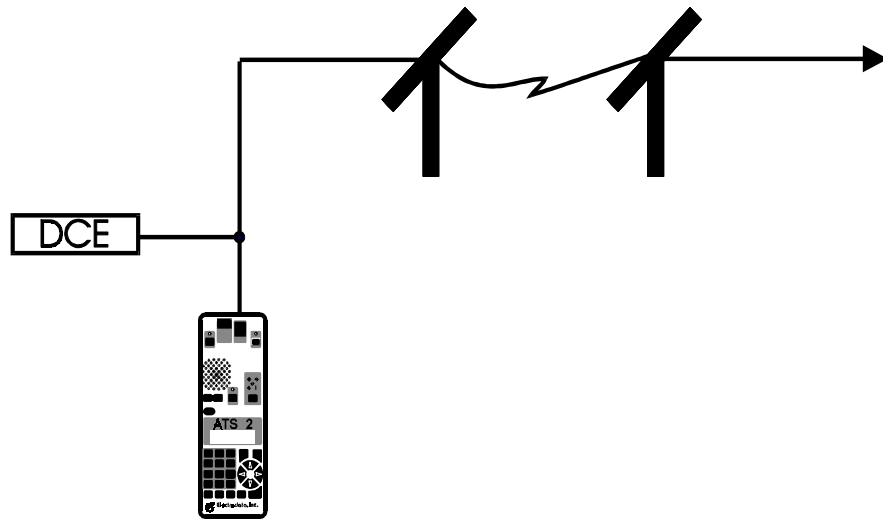
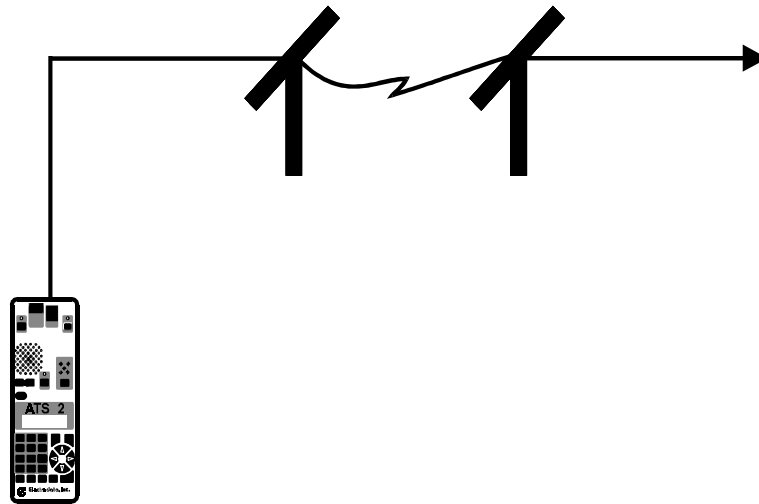

Figure 4 - Bridged Configuration for Line Monitoring
Figure 5 - Terminated Configuration for Line Monitoring
The monitor test can be set up in either of two configurations. The preferred setup is the “bridged” configuration shown in Figure 4. Here the ATS 2 “sees” everything that is happening on the channel, but the data equipment connected to the channel continues to operate as if the ATS 2 were not present. The alternative is the “terminated” configuration shown in Figure 5. In this setup, the data equipment is removed from one end of the line and the ATS 2 is connected in its place. In this situation, the ATS 2 “sees” everything that is coming from the other end of the line, and the line “sees” the ATS 2 as the termination point of the circuit. To run either of these tests, proceed as follows:
5. Press the Down Arrow key again to display the “TERMINATION” option. This should be set to “TERM” for the terminated configuration of Figure 5, or to “BRIDGE” for the bridged configuration of Figure 4. Use the <| > or <| > key, if necessary, to change it.